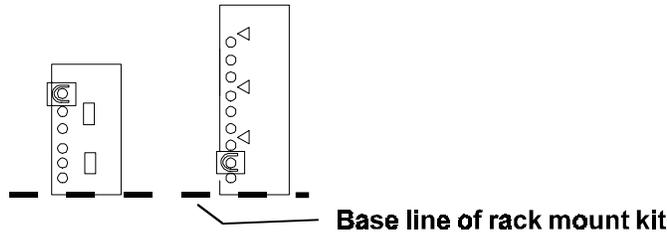

Figure 5-3. Map of Rack Nut Positioning for LC 3 base
1. Determine the baseline of the LC 3 base assembly. See Figure 5-3.
2. Attach rack nuts to the inside face of all four vertical columns. The nuts should be positioned six holes above the base line of the unit as shown in Figure 5-3. (One type of rack may require a spacer as well, see documentation which accompanies your rack and rack mount kit for more information.)